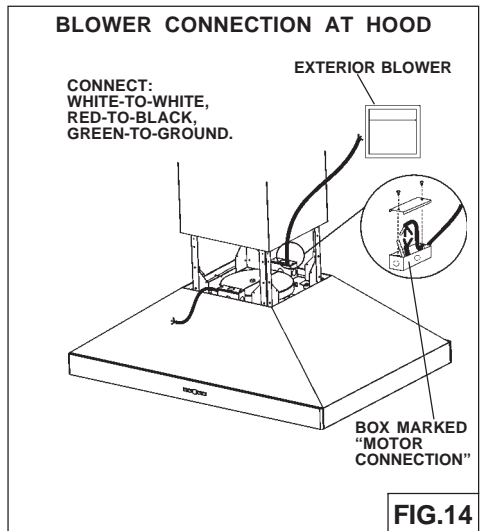

FIG.14
1. Run 2-wire plus ground power cable from the exterior blower to the hood's wiring box marked "motor connection" (Fig.14).